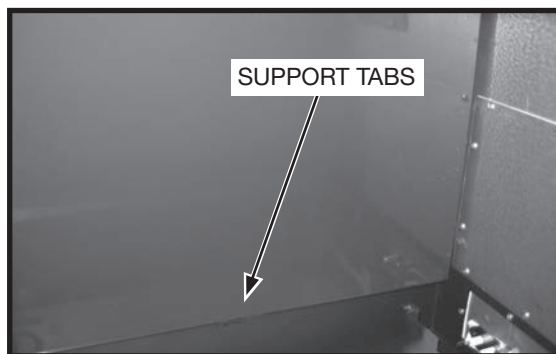
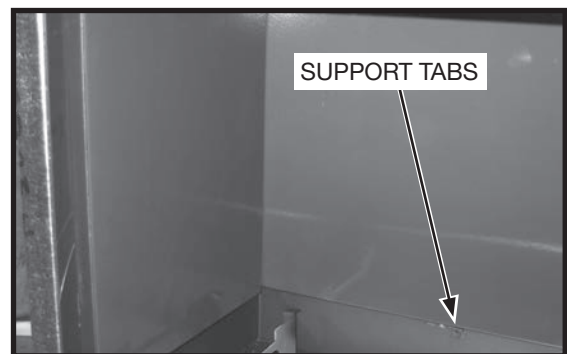

Figure 51: Back panel - right side.
Figure 52: Back panel - left side.
2. Insert the back panel into the firebox by tilting the panel and rest the panel on the seat tabs at the back of the firebox (Figure 51 and Figure 52)..
3. While supporting the back panel insert the left side panel into the firebox. Position the top of the panel against the side of the unit (Figure 52).